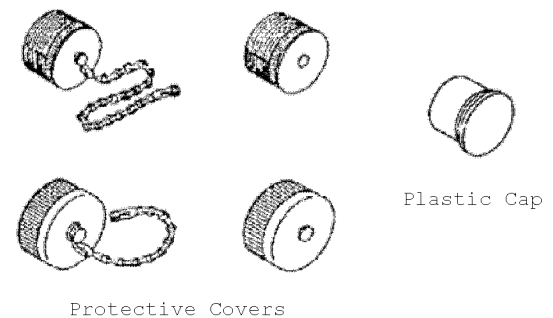

Figure 2. Typical Protective Covers
9. Standard protective covers for connectors are listed in the applicable connector specification, and NA 01-1A-505-2, or -3. Protective covers are available with or without an attaching chain (Figure 2).